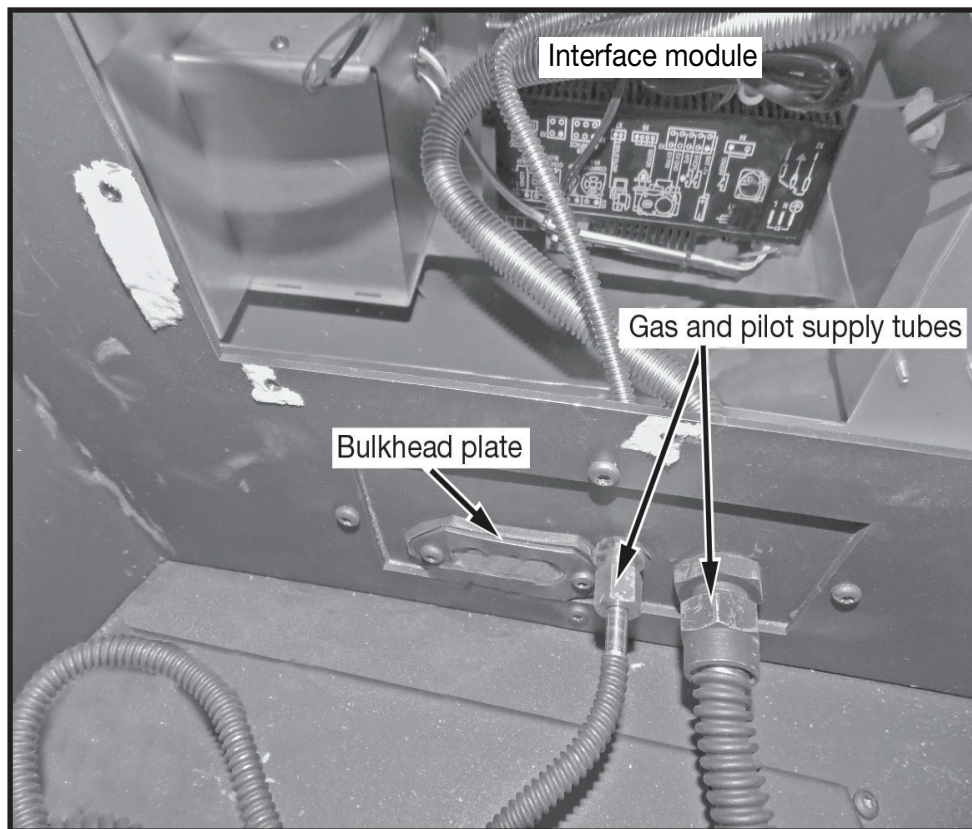

Figure 5: Gas and pilot supply tubes.
4. Attach the manifold and pilot supply tubes to the bulk head fitting and tighten (Figure 5). Ensure that all connections are gas tight.